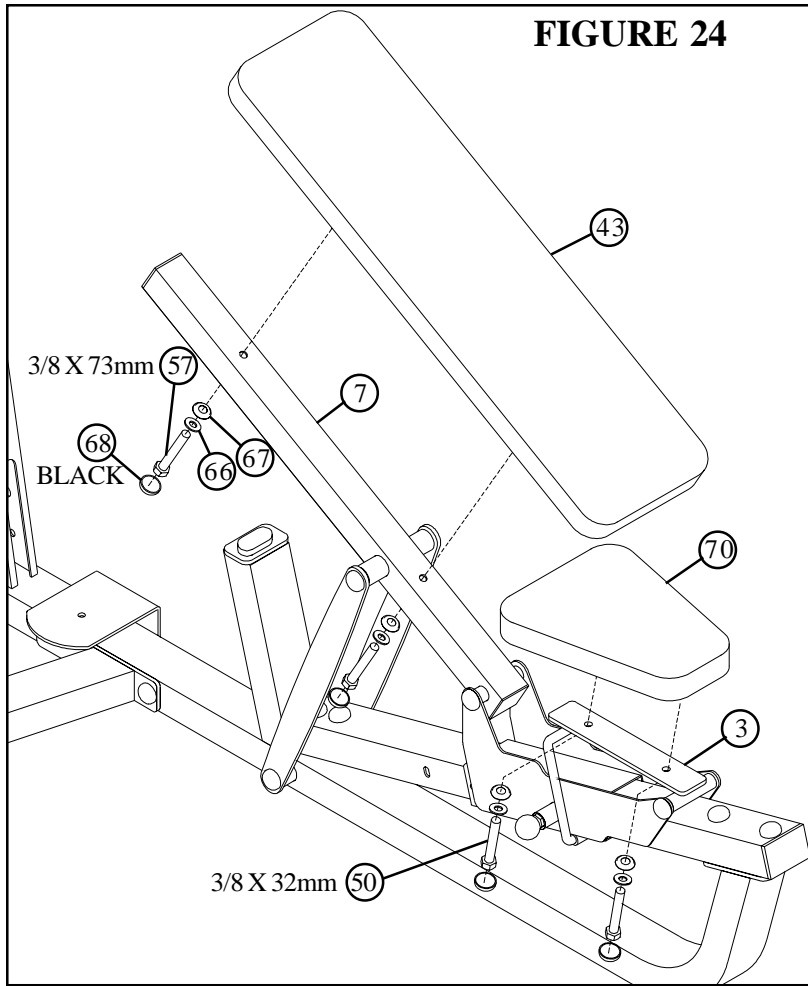

FIGURE 24
- **SECURELY** assemble the MULTI PRESS BACK PAD (43) to the BACK PAD SUPPORT (7) using two BLACK RH CAPS (68), two 3/8 X 73mm BOLTS (57), two 3/8" SAE WASHERS (66), two 3/8" RH WASHERS (67) as shown in FIGURE 24.
- **SECURELY** assemble the MULTI PRESS SEAT PAD (70) to the SEAT PAD SUPPORT (3) using two BLACK RH CAPS (68), two 3/8 X 32mm BOLTS (50), two 3/8" SAE WASHERS (66), two 3/8" RH WASHERS (67) as shown in FIGURE 24.